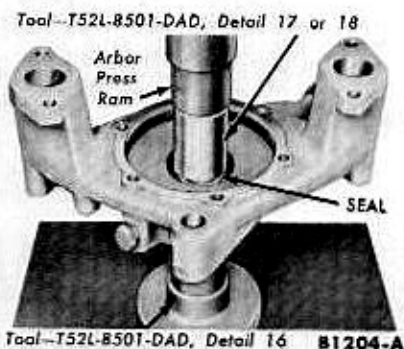

FIG. 6—Seal Installation
3. Apply a light film of waterproof sealer on a new seal and press the seal into the housing (Fig. 6).